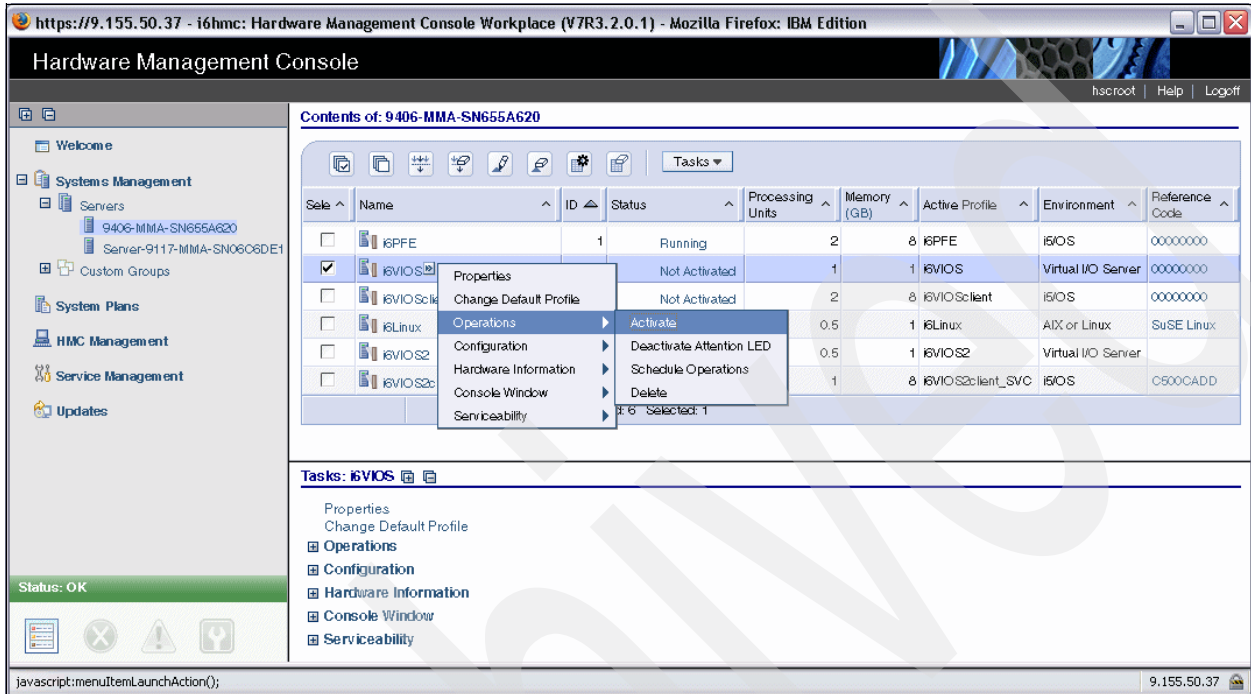

Figure 6-42 VIOS partition activation
2. Activate the VIOS partition by selecting its server from the **Systems Management** → **Servers** view, selecting the VIOS partition, and choosing **Operations** → **Activate** from the pop-up menu, as shown in Figure 6-42.